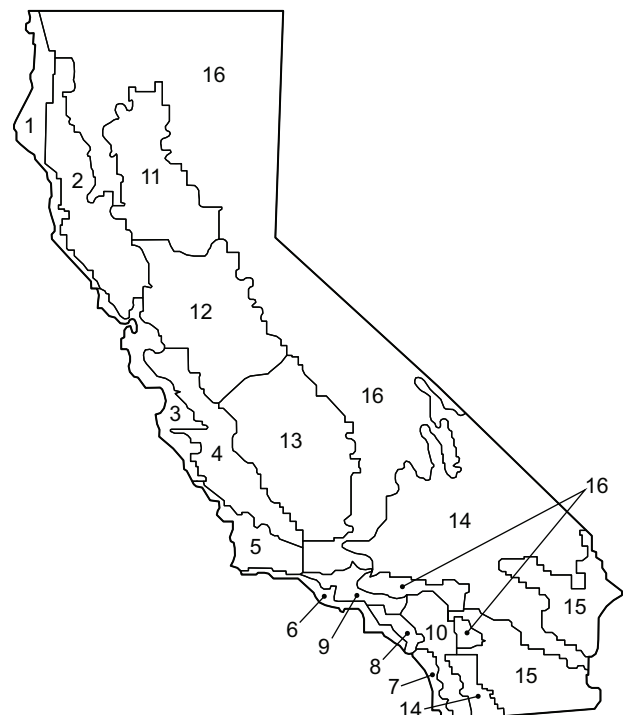

Fig. 83 – California Title 24 Zones
b. See Fig. 83 for map of California Title 24 zones.